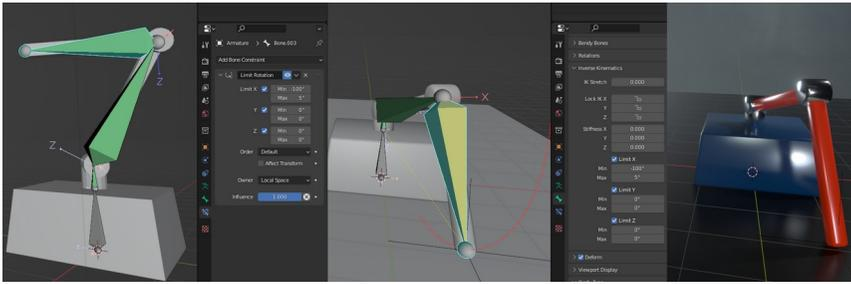

Figure 12-2 Setting the Robot Arm Joint Constraints
5. Select the top end of the initial bone and extrude in the Z direction until the tip of the new bone is at the center of the horizontal cylinder. Extrude the next bone and guide its tip to the center of the next hinge cylinder. Finally extrude the last bone so its end is at the end of the robot arm. On the left of Figure 12-2 you can see the positions of the bones.
12. On the right of Figure 12-2 you can see that I added three different materials using the vertex groups of my robot arm and also a bevel modifier, the lighting is using an environment texture. Animate the robot arm by moving the empty object and setting keyframes for its location. You could do all kinds of fun things such as following the outline of lettering or following the seams of a simple mesh that was "appearing" one face at a time using a build modifier.